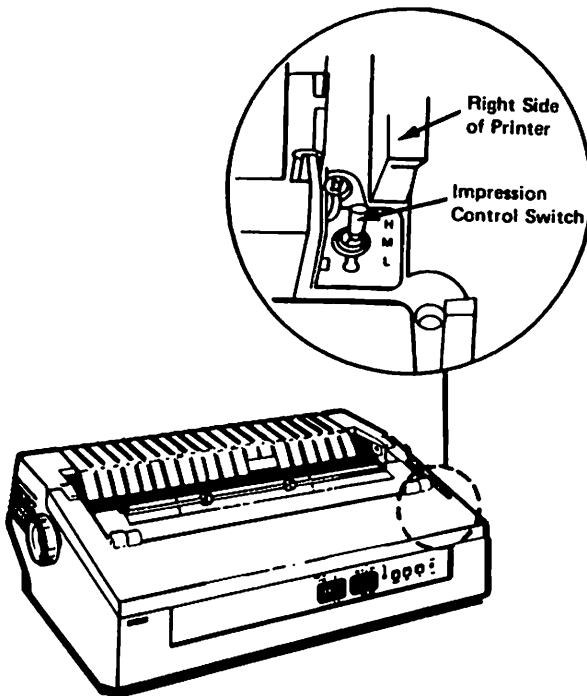

Figure 41 Impression control switch
8. Use the following guide and set the impression control switch (Figure 41) to match the print thimble being used.